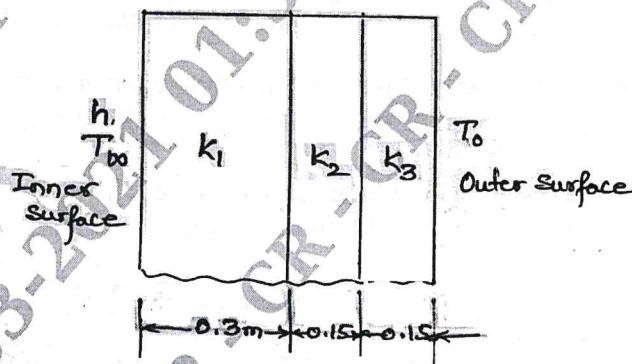

Fig Q8(b)
b. Compute the temperature distribution in the composite wall Fig Q8(b), using 1D heat elements. Use penalty approach of handling boundary conditions. Data:  $K_1 = 20 \text{ W/m}^\circ\text{C}$  ;  $K_2 = 30 \text{ W/m}^\circ\text{C}$  ;  $K_3 = 50 \text{ W/m}^\circ\text{C}$  ;  $T_\infty = 800^\circ\text{C}$  ;  $h = 25 \text{ W/m}^2 \text{ }^\circ\text{C}$ ,  $T_0 = 20^\circ\text{C}$ .